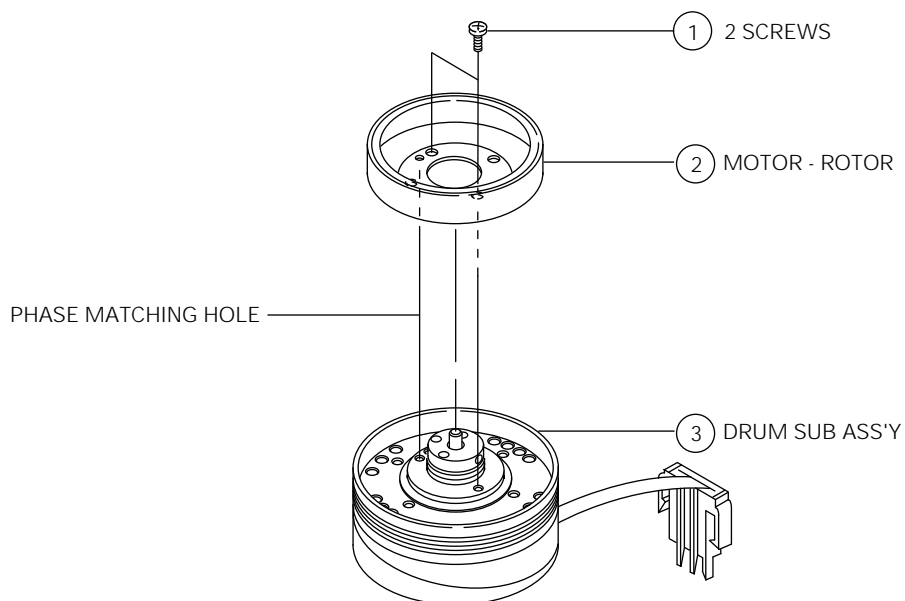

Fig. 1-19 Assembly of Motor Rotor and Cylinder Sub Ass'y
1. Make sure that phase matching holes of the Motor Rotor and the Cylinder Sub Ass'y are aligned correctly as shown in Fig. 1-19 (Refer to phase matching hole).